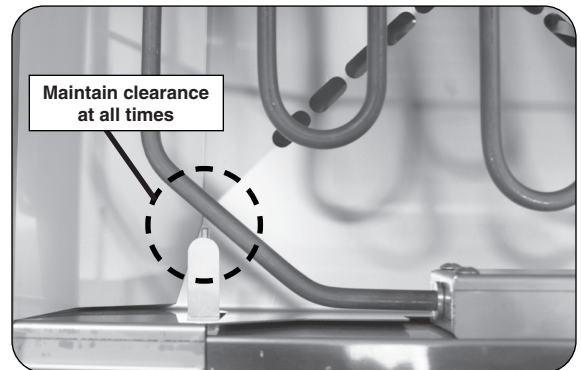

Fig. 18-2 Thermocouple clearance
**Important:** To prevent overheating, the cooking element must not come in contact with the thermocouple. A nominal clearance of 1/8" must be maintained at all times. (See Fig. 18-2.)